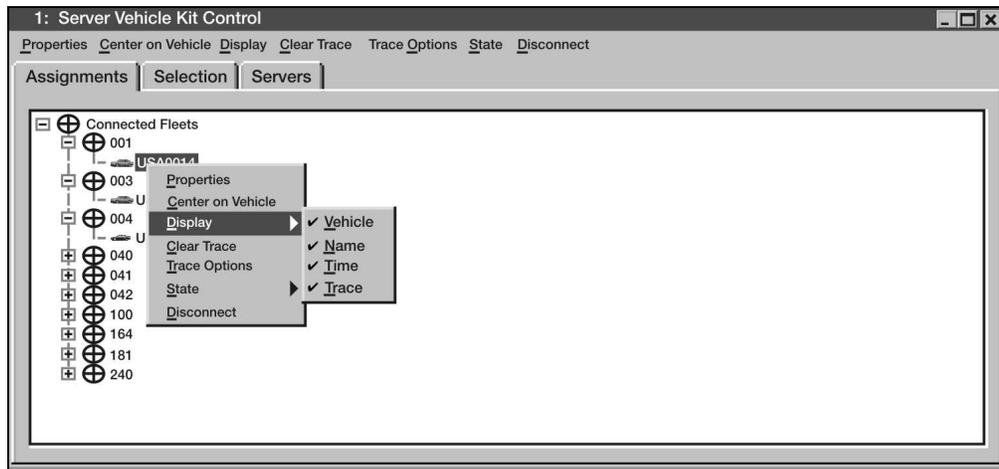

Figure 3-119. Display/Hide Individual Vehicles
- h. Display/Hide report time labels for an individual vehicle (see Figure 3-119).
- (1) Right click on the map to get the pop up menu.
- (2) Choose Select Vehicle.
- (3) Click on the map with the mouse so that the Server Vehicle Kit Control window pops up.
- (4) Select the Assignments tab.
- (5) Right click on a vehicle, select Display Time. If the time was not previously displayed, it will be. If the time was previously displayed, it will be turned off.